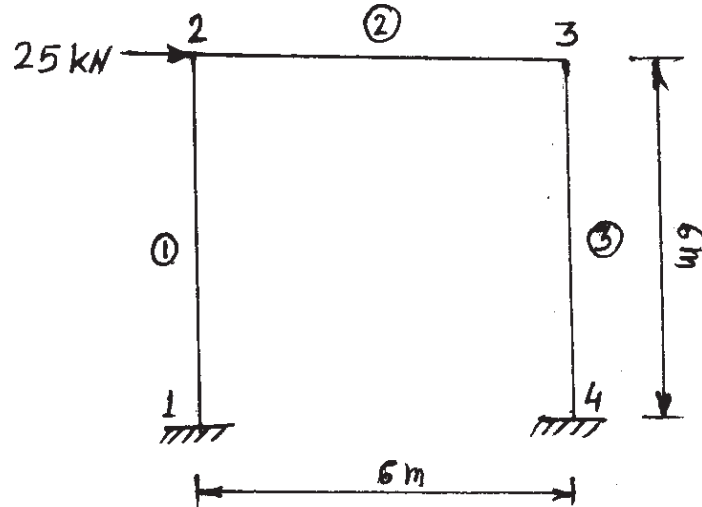

Fig. 2
- Q3) For a rigid frame as shown in fig.2, determine the nodal displacement components and rotations, the support reactions and forces in each element. Take $E = 200 \text{ GPa}$, $I = 8.32 \times 10^{-5} \text{ m}^4$, $A = 6.45 \times 10^{-3} \text{ m}^2$ for all elements. [18]